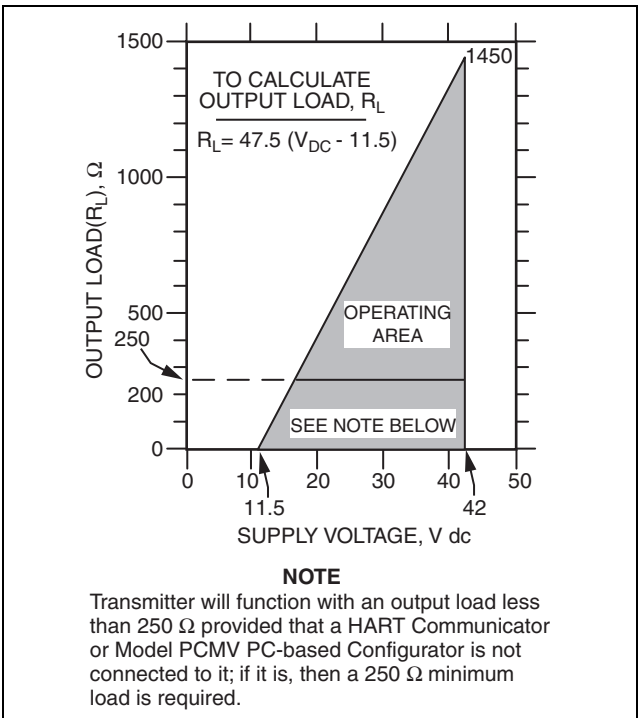

Figure 11. 4 to 20 mA Output, Supply Voltage vs. Output Load
Minimum supply voltage is 11.5 V dc. (Figure 11)
- (e) See Figure 11 for minimum load required for proper FoxCom or HART communication.